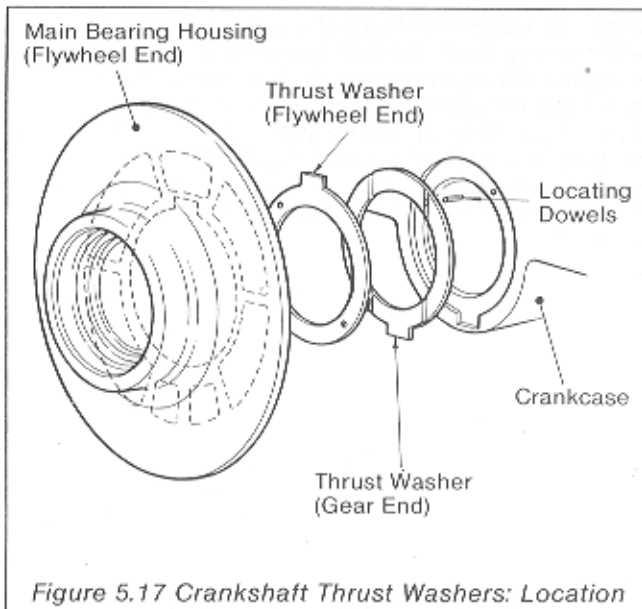

Figure 5.17 Crankshaft Thrust Washers: Location
- (1) Fit the gear end thrust washer on the locating dowels in the crankcase, making sure that the grooved side is away from the crankcase and the tongue is located in its groove. (Figure 5.17).
- (2) Insert the crankshaft into the gear end bearing taking care not to damage the bearing surface.
- (3) On AC2 engines, replace the top half of the intermediate bearing and housing. Ensure that the oilway cross hole is towards the flywheel end of the engine. Line up the matching numbers on both halves of the bearing housing and fit the bottom half. Fit the intermediate bearing bolts and washers and torque load the bolts to 41 Nm (30 lbf ft).
- (4) Fit the flywheel end thrust washer on the locating dowels in the flywheel end main
bearing housing, making sure that the grooved side is away from the housing and the tongue located in its groove. (Figure 5.17).